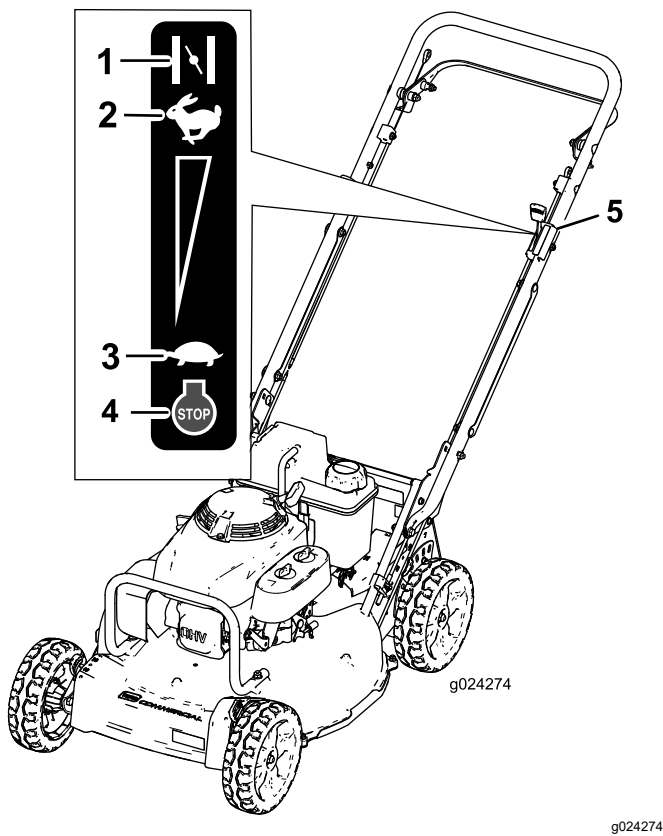

Figure 13
3. Move the throttle-control lever to the Choke position (Figure 13).
5. When the engine starts, move the throttle-control lever to the Fast position (Figure 13).
Release the blade-control bar and move the throttle-control lever to the Stop position (Figure 13).